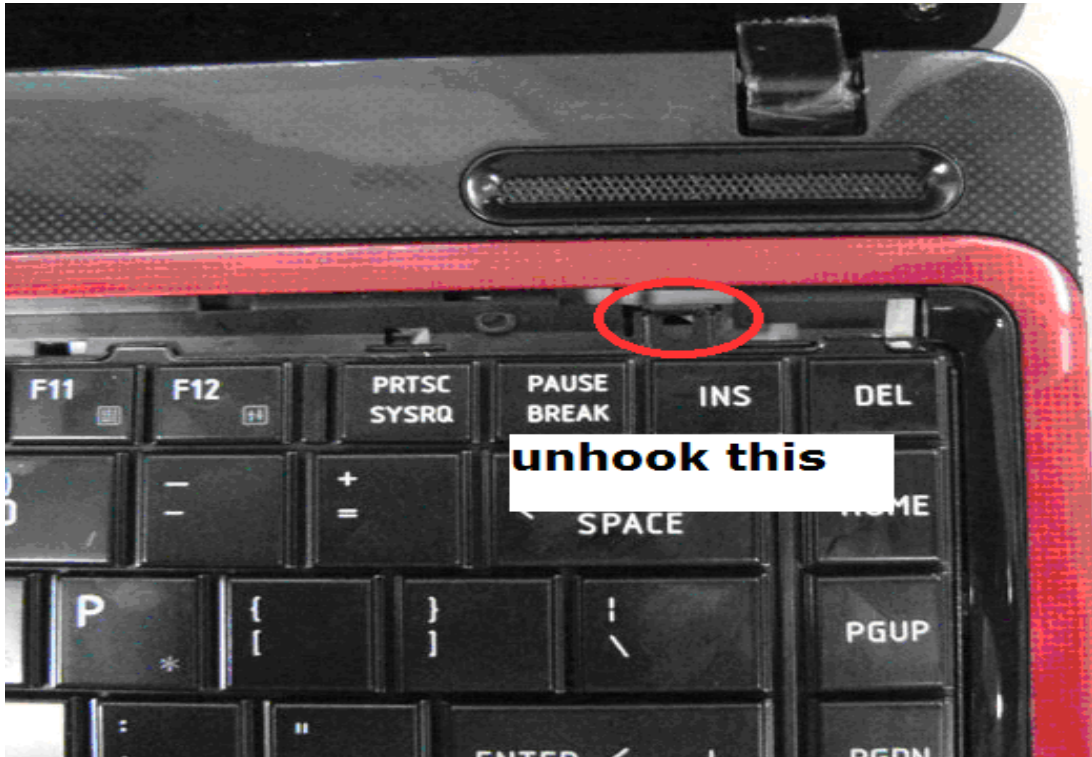

Figure 4-3-3 Unhook keyboard hook
5. Unhook the keyboard hook.(see Figure 4-3-3)